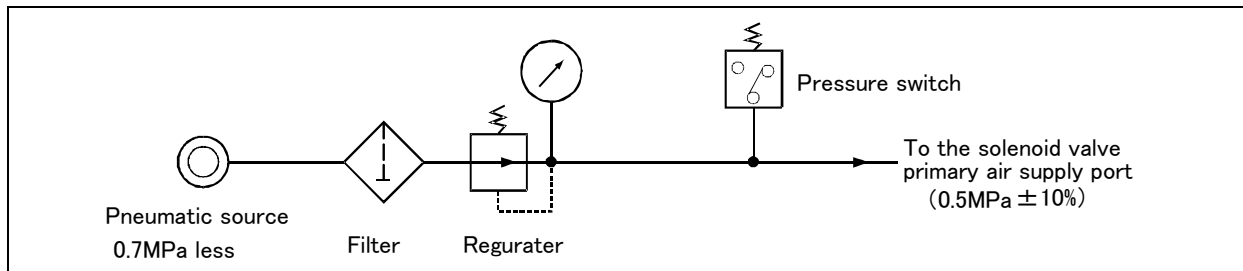

Fig.2-42 : Air supply circuit example for the hand
Fig. 2-42 shows an example of pneumatic supply circuitry for the hand.
- (1) Place diodes parallel to the solenoid coil.
- (2) When the factory pneumatic pressure drops, as a result of the hand clamp strength weakening, there can be damage to the work. To prevent it, install a pressure switch to the source of the air as shown in Fig. 2-42 and use the circuit described so that the robot stops when pressure drops. Use a hand with a spring-pressure clamp, or a mechanical lock-type hand, that can be used in cases where the pressure switch becomes damaged.
- (3) The optional hand and solenoid valve are of an oilless type. If they are used, don't use any lubricator.
- (4) Supply clean air to the vacuum generation valve when you use clean type robot.